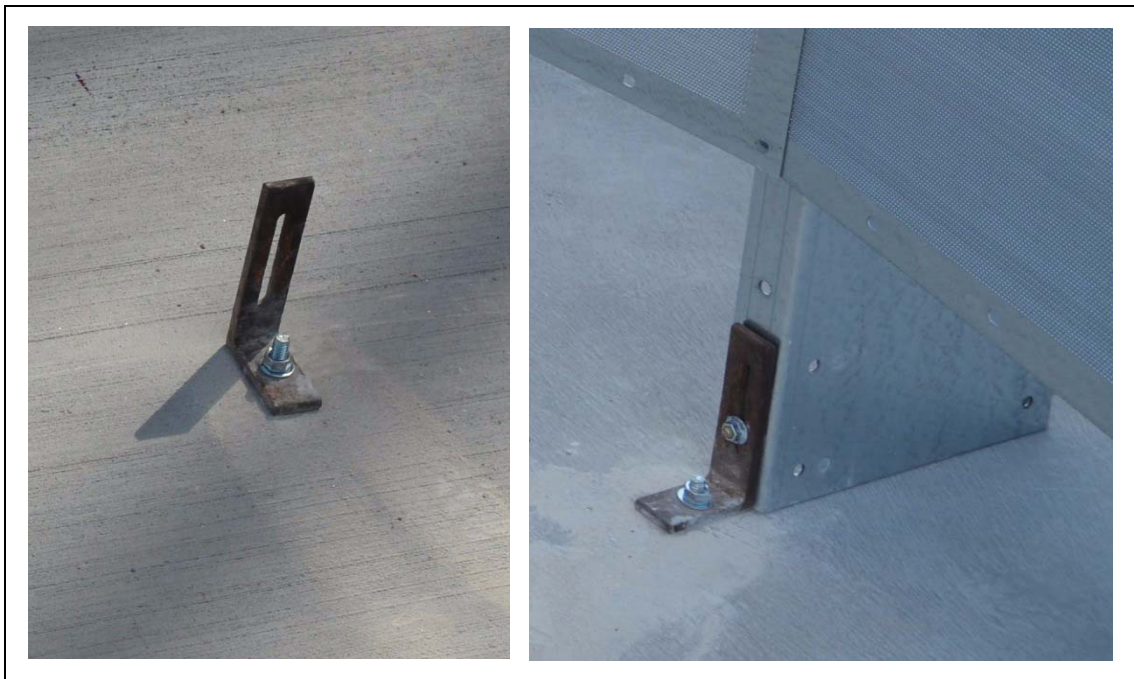

Figure 7K
14. Install the jig clip to the concrete using an expansion bolt. *(See Figure 7K.)*